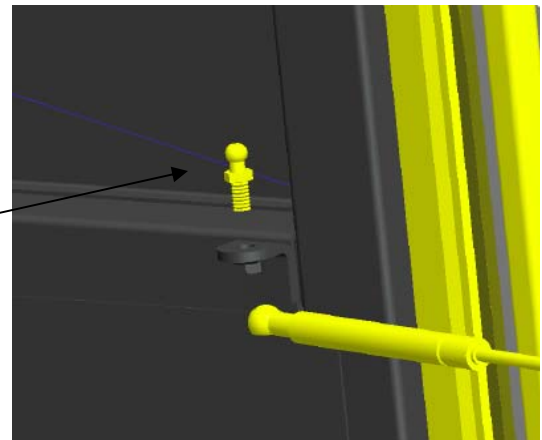

Figure 2
2. Install ball studs into tabs provided in cab frame. Figure 2.